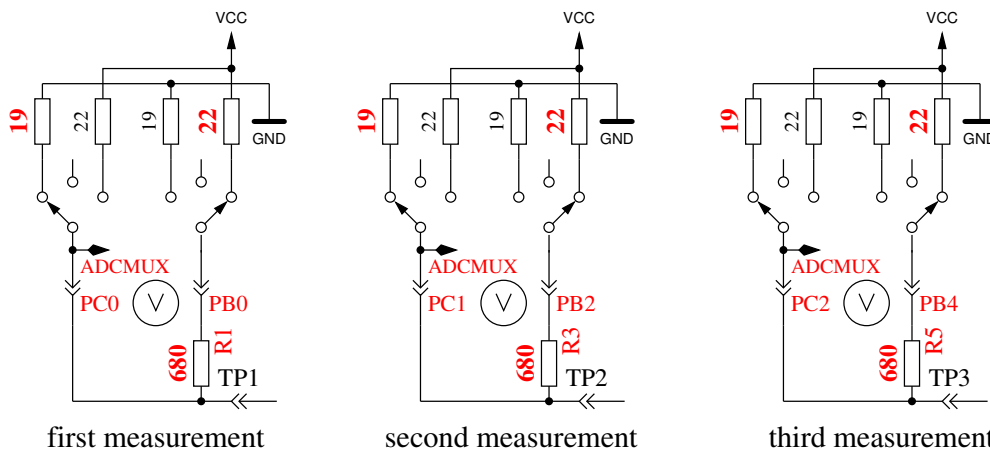

Figure 5.43: Measurement of internal resistance of Port C switched to GND
5. **This step tests the capability of GND (-) connected 470kΩ resistors (H) to pull the test pins to GND.** Row 1 shows the text “RH-”. Row 2 should display zero for all three pins.
6. **This step tests the capability of VCC (+) connected 470kΩ resistors (H) to pull the test pins to VCC (+).** Row 1 shows the text “RH+”. The results are shown als difference to VCC and should be near zero. Great differences from the best value for test 5 and 6 are errors such as isolation problem, flux material or damaged port.
7. **Measuring of internal resistance of pin output switched to the GND signal.** This test and the follwing tests will only be done, if the option AUTO\_CAL is selected. The internal resistance of the port C outputs switched to GND (-) are measured with the current of to VCC (+) switched 680Ω resistors, see Figure 5.43. Only the three pins of the ADC port are measured, the resistor port B (PB0,PB2 and PB4) can not be measured without hardware modification. Is is assumed that the port resistance of the different ports are nearly identical. The resistor value will be shown in the next test.